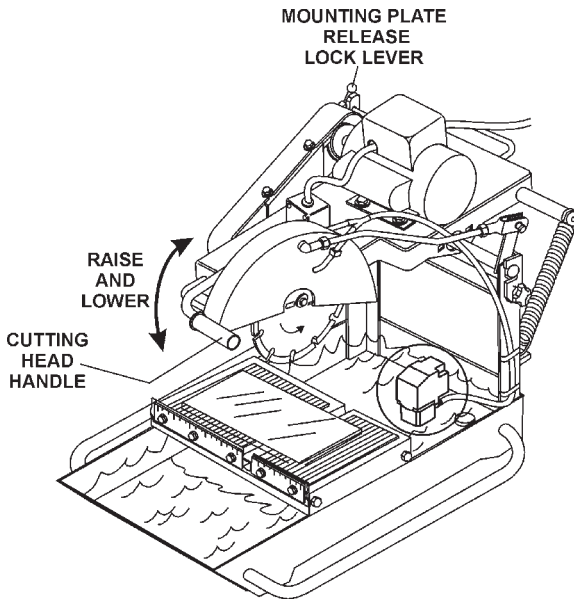

Figure 21. Cutting Head Handle
- Adjust the cutting depth by pulling up or down on the **Cutting Head Handle** (Figure 21). This saw is designed, and is best utilized as a "**Chop-Saw**". Once the mounting plate release/lock lever is released, the optimum cutting action is attained by using the **Raise/Lower Handle** to rotate down onto the material to be cut. Simultaneously the **conveyor cart is moved slowly forward** to advance the material and cutting action.